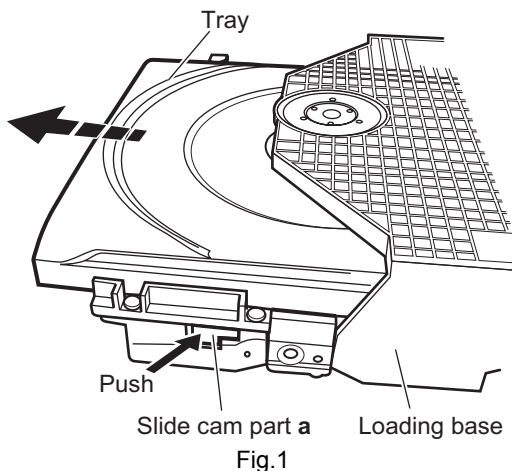

Fig.1
- (1) Push **a** of the slide cam on the hole in the right side of the loading base by using a driver until it stops. (See Figure 1.)
- (2) The tray comes out. Pull the tray in a front direction until it stops.